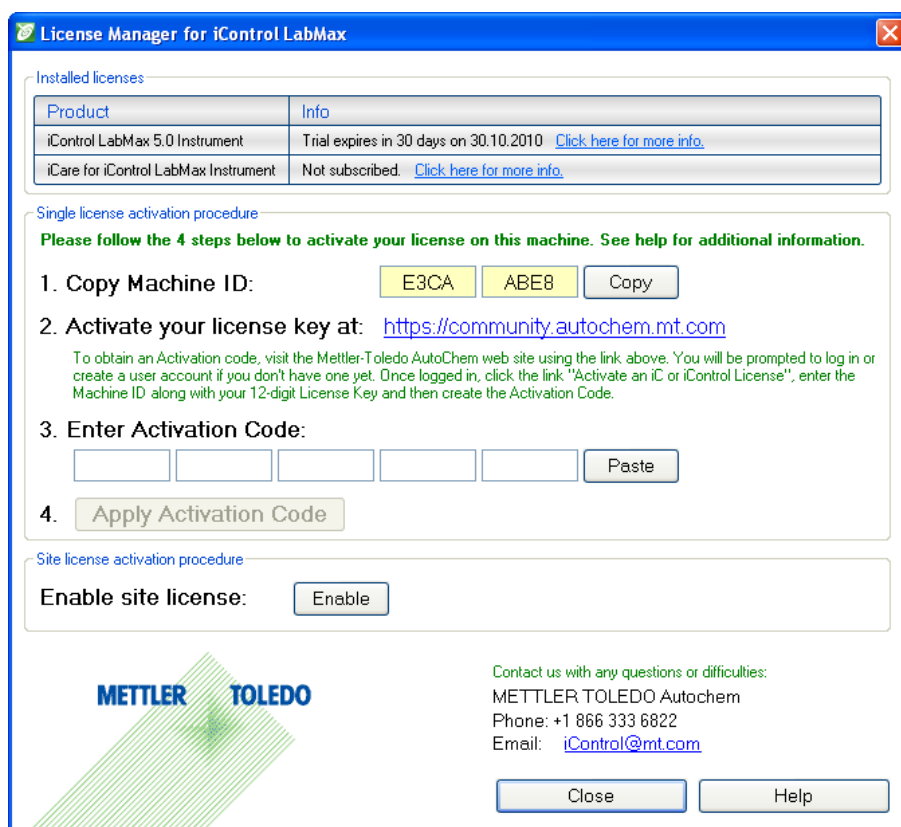

Figure 1: License Manager dialog box
- Click **Copy** after step 1. **Copy Machine ID**. (Refer to Figure 1: License Manager.)
- Once you have copied the activation code from the AutoChem Community Web site, return to the License Manager (Figure 1).